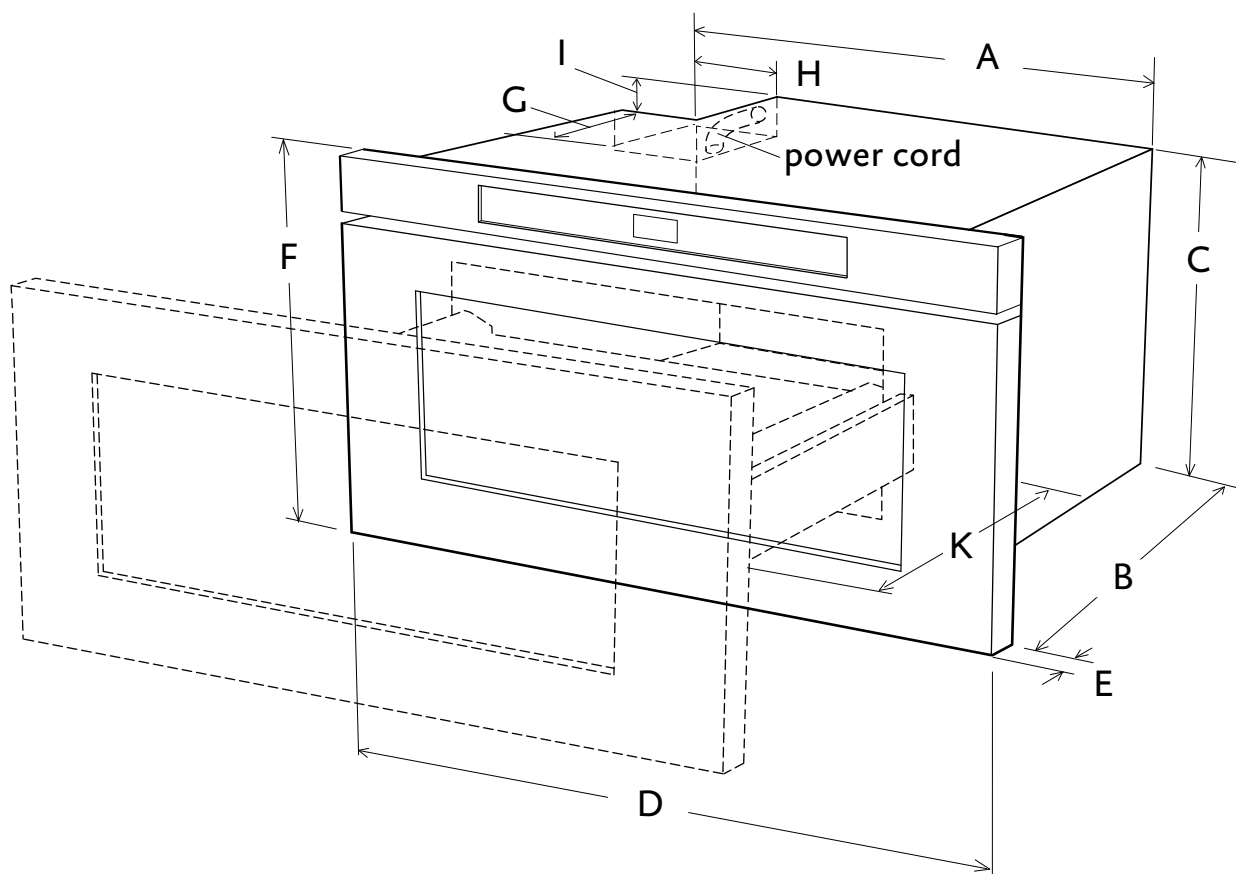
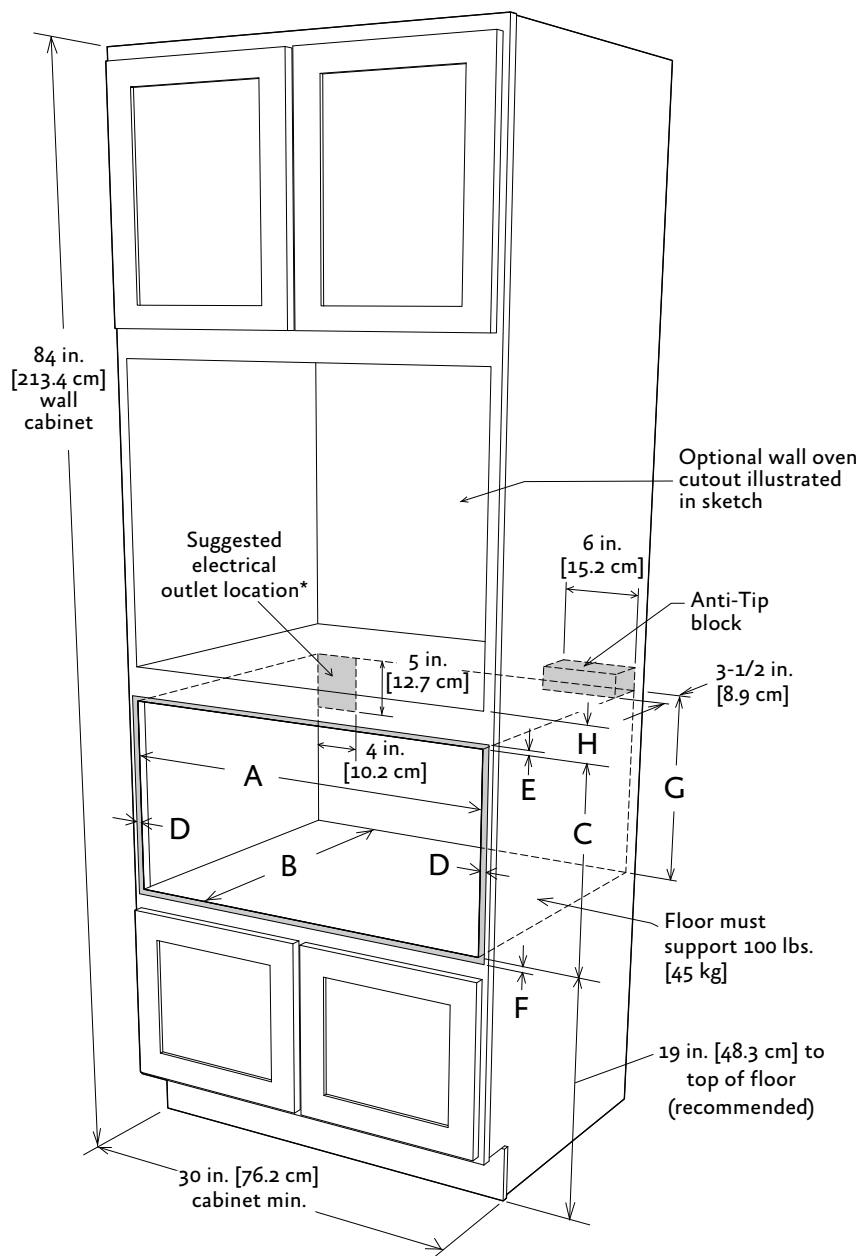
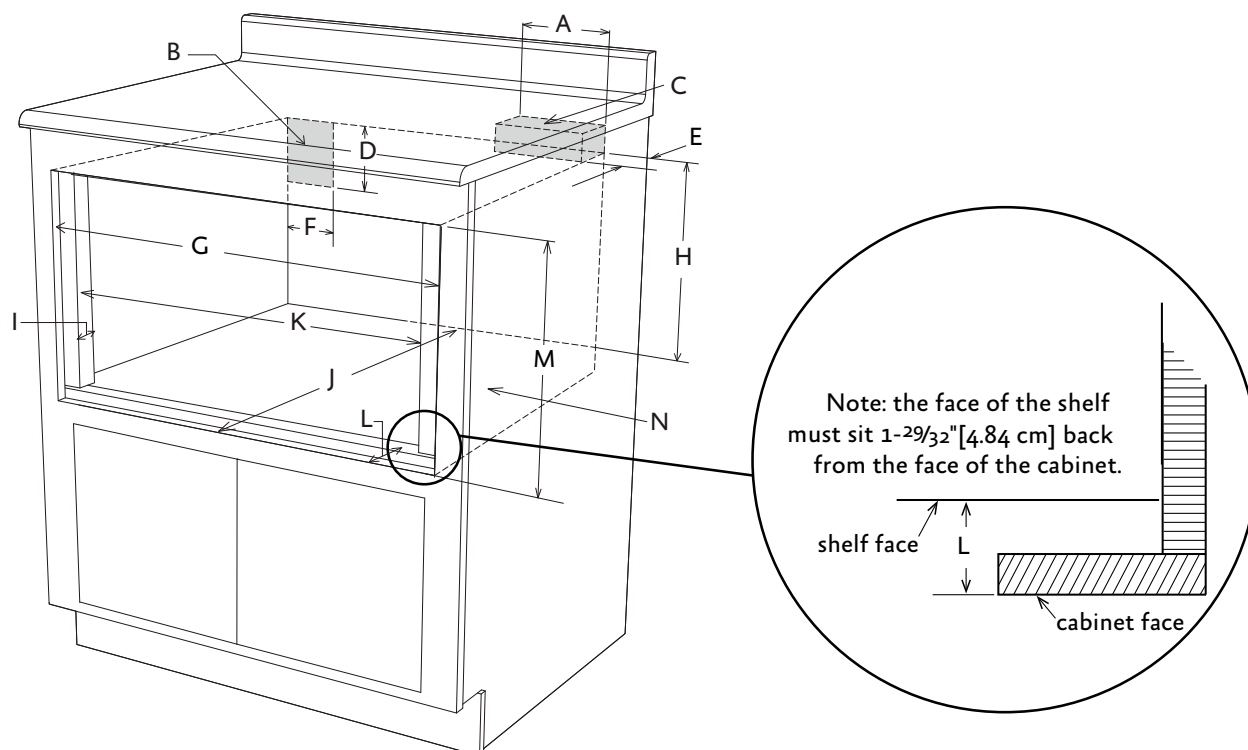

Figure 1. Microwave dimensions
Figure 2. Standard mounting under oven
Figure 4. Mounting flush under counter
**⚠ WARNING** Do not install drawer in any combustible cabinetry unless it meets the stated clearances and dimensions on the following pages. See Figure 1, 2 and 3.
- Figure 1 shows dimensions of the unit. Figures 2 - 3 provide minimum clearance for standard (non-flush) installation. Figures 4 - 9 show clearances and additional information for flush mount installation. Suggested electrical outlet location is shown in figures 2 - 6. 1
See Figures 1 - 6 for required clearances and dimensions when planning the drawer's location.